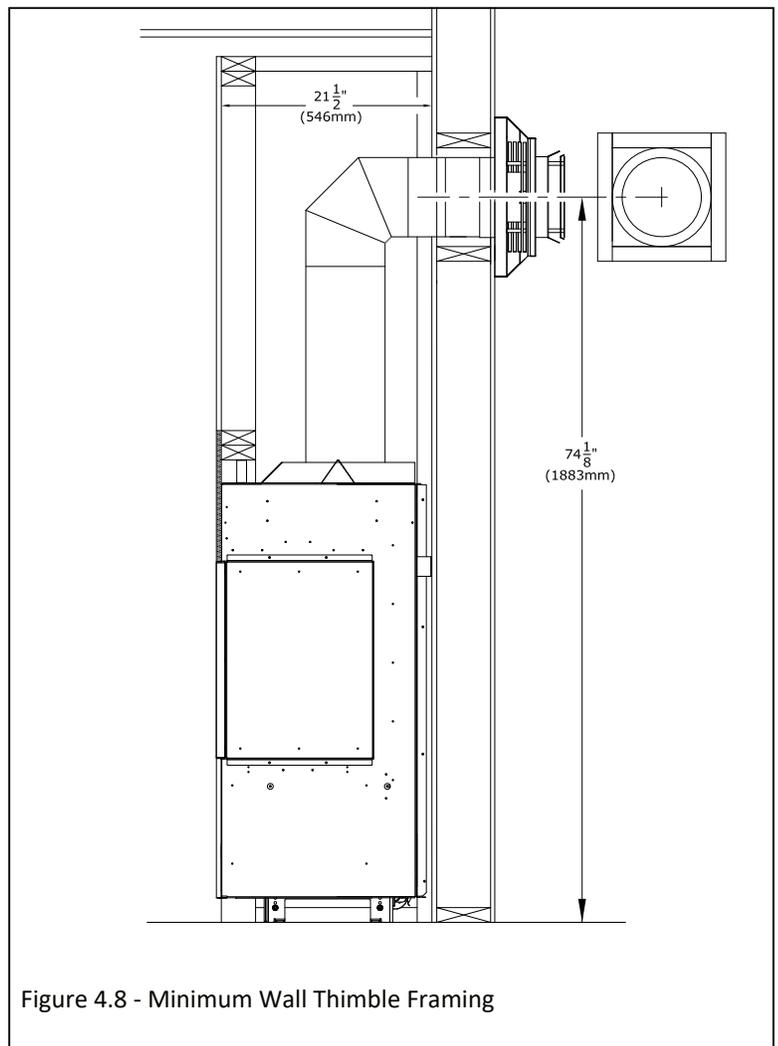

Figure 4.8 - Minimum Wall Thimble Framing
- Follow Figure 4.8 below for minimum rough-in dimensions.
1. Measure from floor level of the fireplace to the center of where the vent pipe will penetrate the wall. The dimension in Figure 4.8 is used with a Simpson DuraVent pipe.